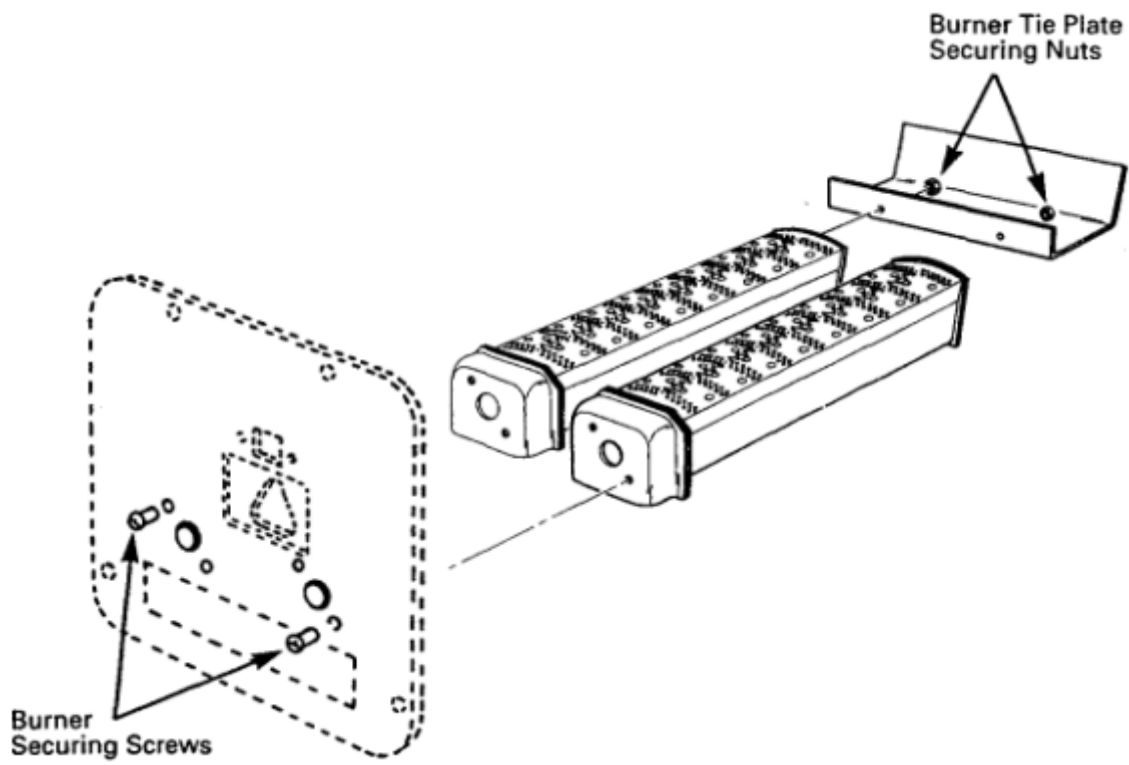

fig 12 - Door/Burner (80/70)
- b) Remove the two nuts securing the burner tie plate to the burners (Fig 12).
- c) Remove the burners by removing the securing screws (2 per burner) (Fig 12).
- 3) Remove the screws securing the burners to the door panel (2 screws on each burner) and remove the burners (Fig 12).
- 3) Remove the two nuts securing the burner tie plate to the burners (Fig 12).
- 4) Remove the screws securing the burners to the door panel (2 screws on each burner) and remove the burners (Fig 12).